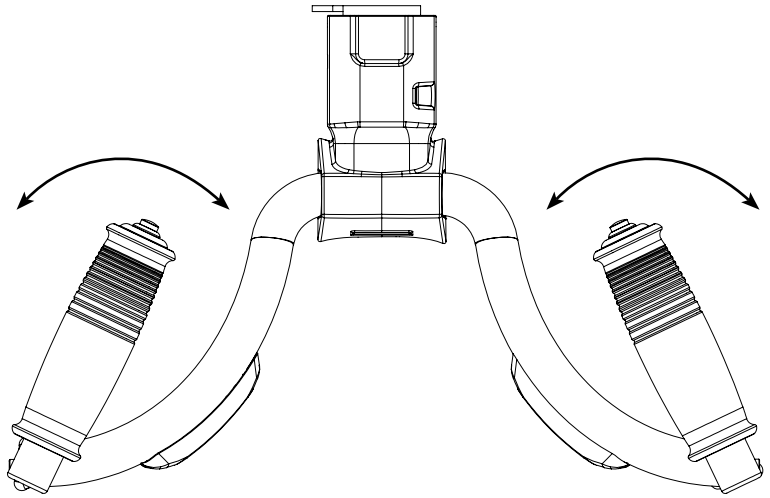

Fig. FS-19
Step 2: Adjust the handle to the desired position, then tighten the nylock nut and reinstall the wing knob (see Fig. FS-19).